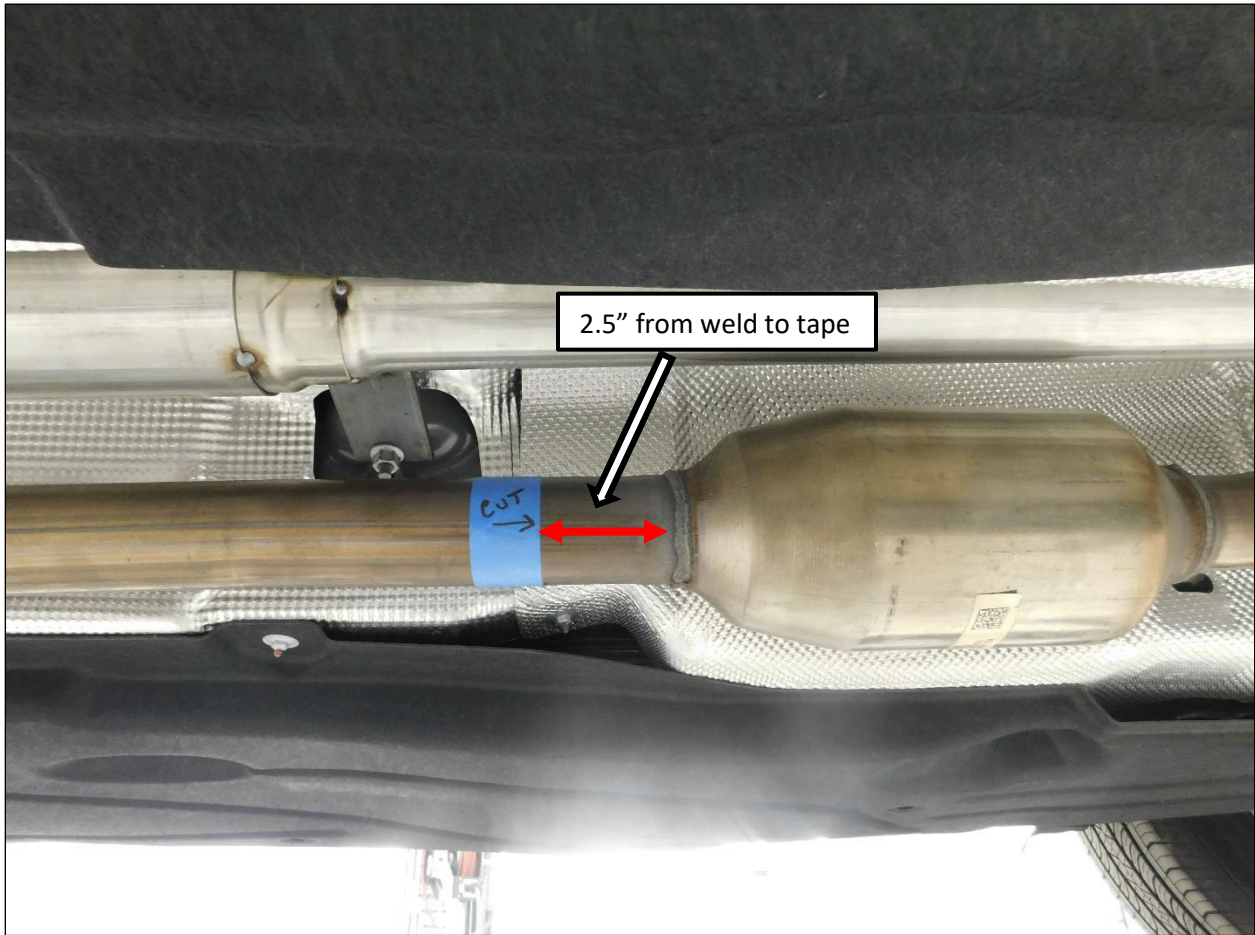

Figure 2
IMPORTANT: This will provide an alignment reference to reinstall the catalytic converter after the cut is made to the exhaust pipe as outlined in **Step 3 / Fig. 2 Optional Procedure**.
3. Mark the OEM exhaust where it will be cut just after the catalytic converter. **See Fig. 2.**